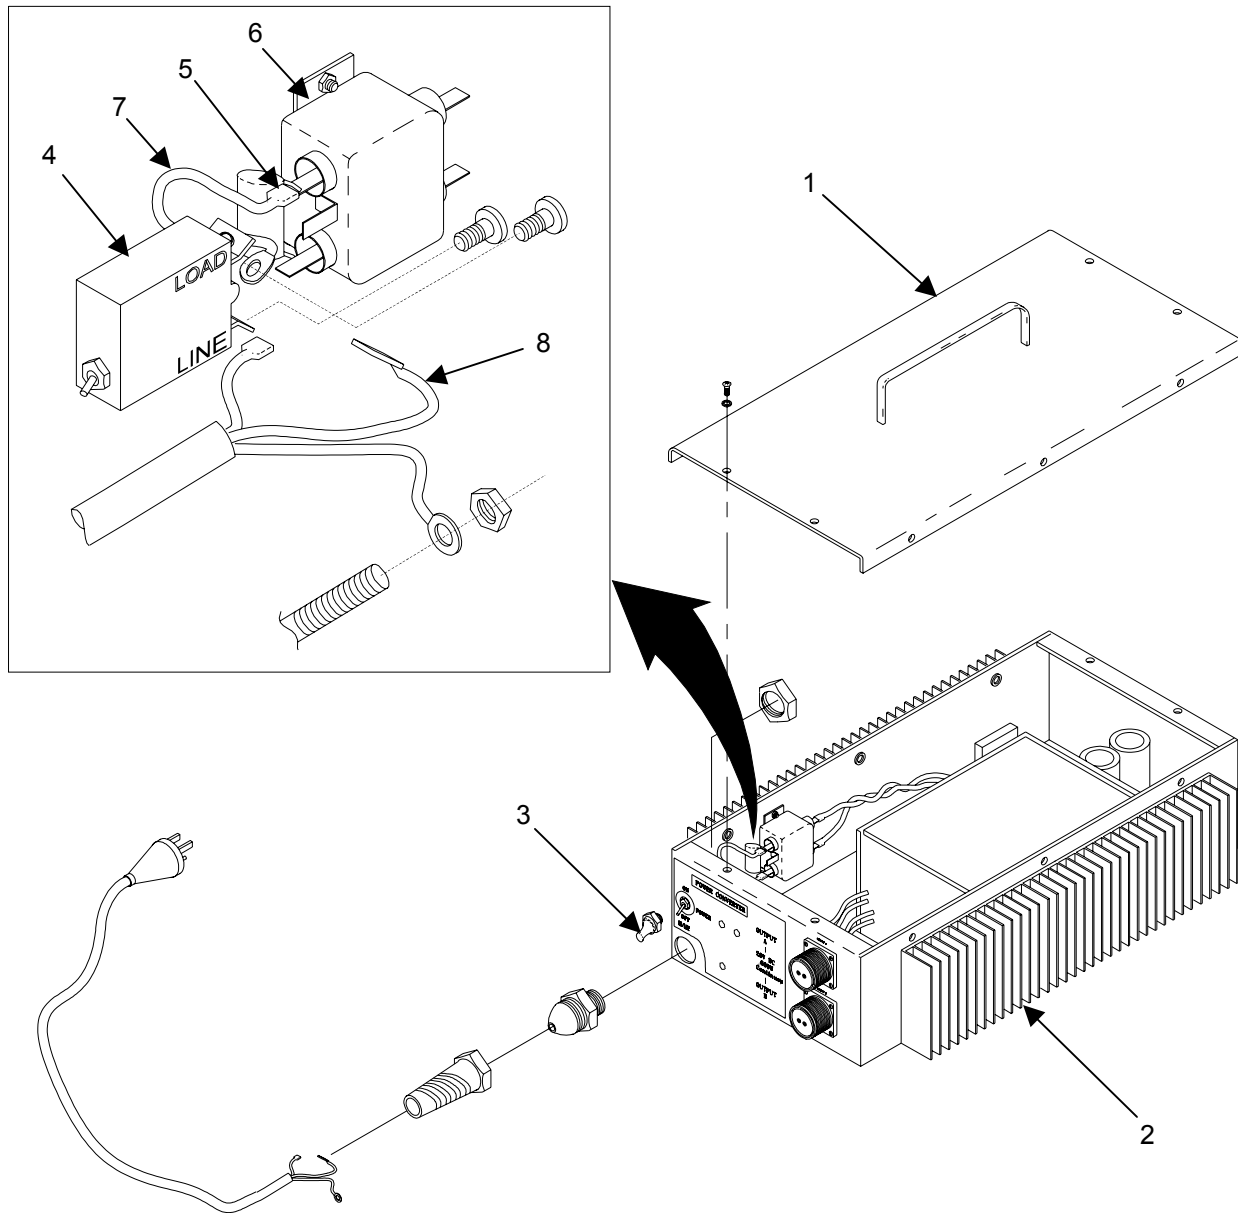

Figure 4. Replace the Main Power Switch (MS0150)
1. Remove the screws and washers retaining the top cover (**figure 4, item 1**) of the power converter (**figure 4, item 2**), and remove the top cover.
2. Loosen and remove the hex nut with protective rubber cap (**figure 4, item 3**) of the main power switch (**figure 4, item 4**).
3. Make note of the location, color, and connection point of the two wires connected to the main power switch (**figure 4, item 4**) inside the power converter (**figure 4, item 1**) to ensure that the wires are reconnected properly when the switch is replaced.
4. Reach inside the power converter (**figure 4, item 2**) case and disconnect the spade connector (**figure 4, item 5**) which connects the power switch (**figure 4, item 4**) to the AC filter block (**figure 4, item 6**).
5. Loosen and remove the screw that secures the wire (**figure 4, item 7**) to the second terminal. Set this wire aside.
6. Loosen and remove the screw retaining the power cord wire (**figure 4, item 8**) to the switch (**figure 4, item 4**) at the LINE terminal.
7. Remove the main power switch (**figure 4, item 4**) from the power converter (**figure 4, item 2**).
8. To install a new main power switch (**figure 4, item 4**), install the short wire (**figure 4, item 7**) set aside earlier on the switch terminal labeled LOAD. Secure with screw.
9. Place the switch (**figure 4, item 4**) in position in the power converter's (**figure 4, item 2**) front panel. Be sure to position the switch so that the screw terminal labeled LOAD is facing up and out of the case while the terminal labeled LINE is facing down into the power converter case.
10. Install the hex nut with protective rubber cap (**figure 4, item 3**) on the front of the power switch (**figure 4, item 4**).
11. Connect the spade terminal (**figure 4, item 5**) to the lug on the AC Filter (**figure 4, item 6**).
12. Connect the power cord wire (**figure 4, item 8**) to the switch (**figure 4, item 4**) at the terminal marked LINE, and secure with screw.
13. Install power converter cover (**figure 4, item 1**) and retain with screws and lockwashers.